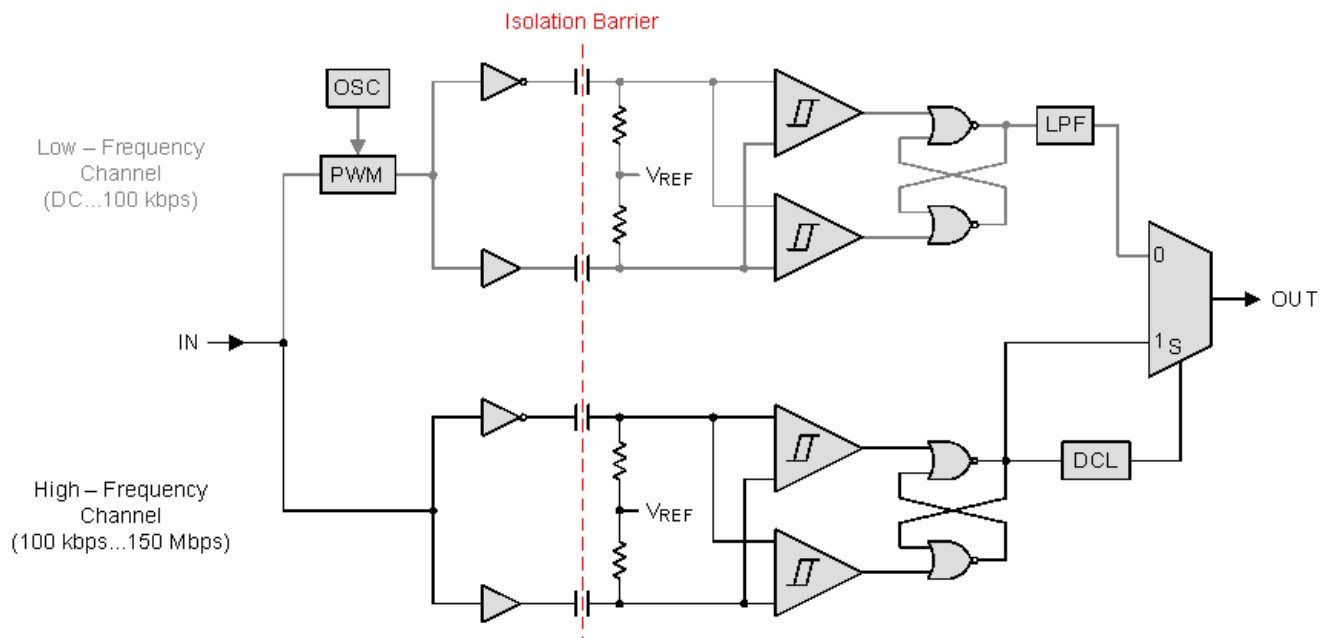

Figure 14. Conceptual Block Diagram of a Digital Capacitive Isolator
The isolator in Figure 14 is based on a capacitive isolation barrier technique. The I/O channel of the device consists of two internal data channels, a high-frequency channel (HF) with a bandwidth from 100 kbps up to 150 Mbps, and a low-frequency channel (LF) covering the range from 100 kbps down to DC. In principle, a single-ended input signal entering the HF-channel is split into a differential signal through the inverter gate at the input. The following capacitor-resistor networks differentiate the signal into transients, which then are converted into differential pulses by two comparators. The comparator outputs drive a NOR-gate flip-flop whose output feeds an output multiplexer. A decision logic (DCL) at the driving output of the flip-flop measures the durations between signal transients. If the duration between two consecutive transients exceeds a certain time limit, (as in the case of a low-frequency signal), the DCL forces the output-multiplexer to switch from the high- to the low-frequency channel.